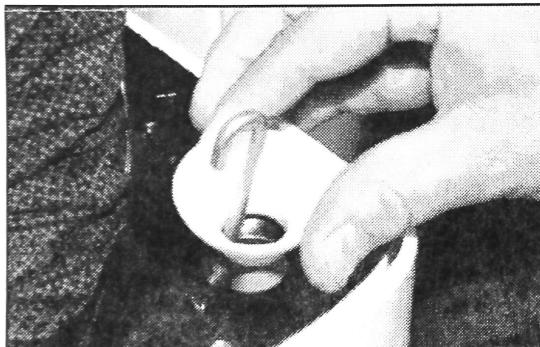

FIGURE 1
3. Wipe & Clean as much of the grease, used to lubricate the suspension balls, from the four (4) corners of the Top Frame Assembly.
4. Set the four (4) Bushings, included with the kit, in the four (4) corners of the Top Frame Assembly. Make sure the Bushing is fully seated and properly in place. (See *Figure 1*)